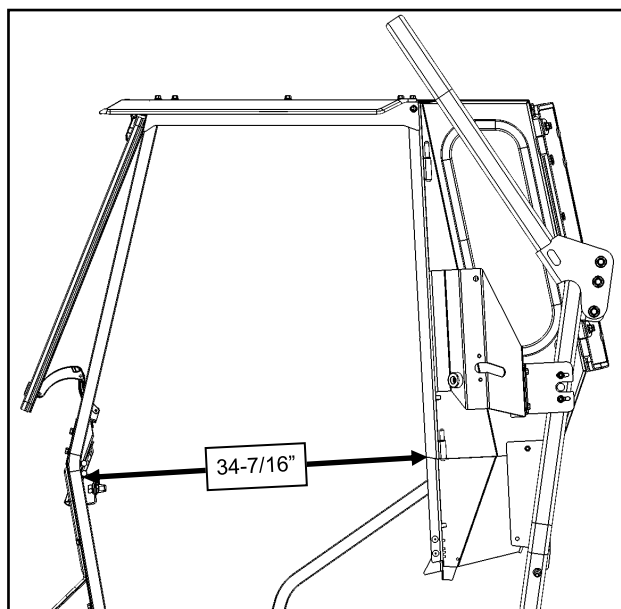

Fig. 15.3 (Measure A-Pillars to Rear Legs)
- 15.3** Measure the distance from the striker bracket to the front edge of the rear legs as shown in figure 15.3. Adjust the A-pillars, rear legs, and ROPS brackets to get as close to 37-7/16" as possible. Tighten the hardware securing the ROPS brackets to the ROPS that were installed in step 2.1.